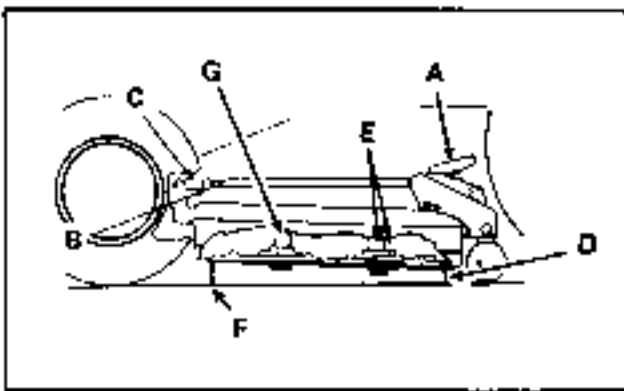

FIGURE 38 - Level Mower
2. Turn both mower height adjustment handles (A, Figure 38) fully clockwise to the highest cutting height position.
3. Rotate the mower blades so the tips point straight forward and backward as shown in Figure 38.
- a. Loosen the jam nuts (B, Figure 38).
- b. Remove the cotter pins and then disconnect the eyebolts or yokes (C, Figure 38) from the mower hitch.
- e. Reinstall the eyebolts or yokes on the hitch and reinstall the cotter pins. Spread the cotter pins around the hitch pins. Then retighten the jam nuts (B).